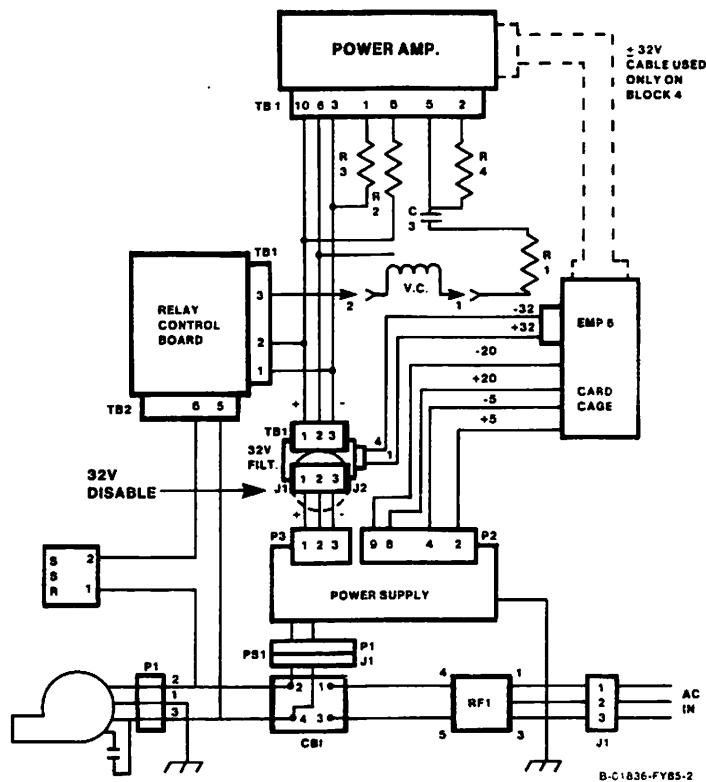

Figure 6-39 Power Circuitry Schematic
- A. Disconnect the plug from the power supply to the 32 volt filter at the filter end of the harness. The filter is located in the center of the base pan where the blower is mounted. (J1/P1 of the filter, Figure 6-39)